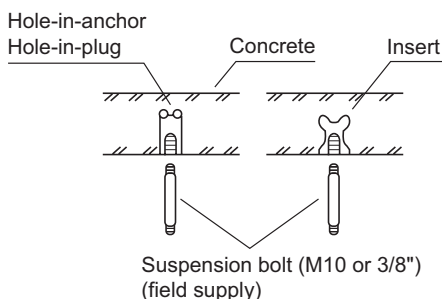

Fig. 2-176
- (1) Follow the diagrams to make the holes in the ceiling.
- (2) Depending on the ceiling type:
- Insert suspension bolts as shown in Fig. 2-176